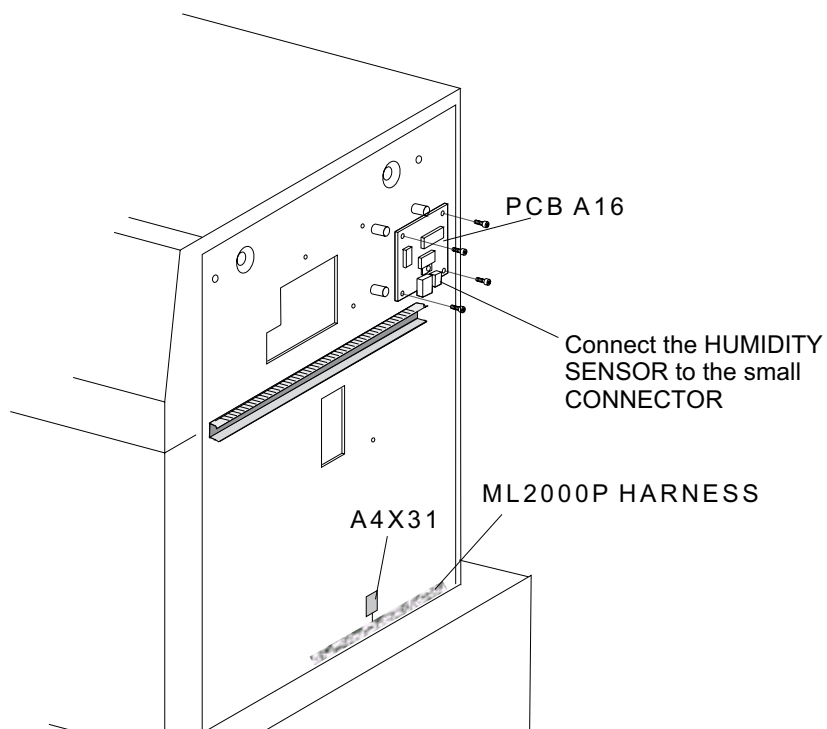

figure 1-8
11. Connect the HUMIDITY SENSOR to the small CONNECTOR on PCB A16. See figure 1-8.
15. Locate CONNECTOR A4x31 in the ML2000P Harness. Plug in A4X31 from the HUMIDIFIER. See figure 1-8.